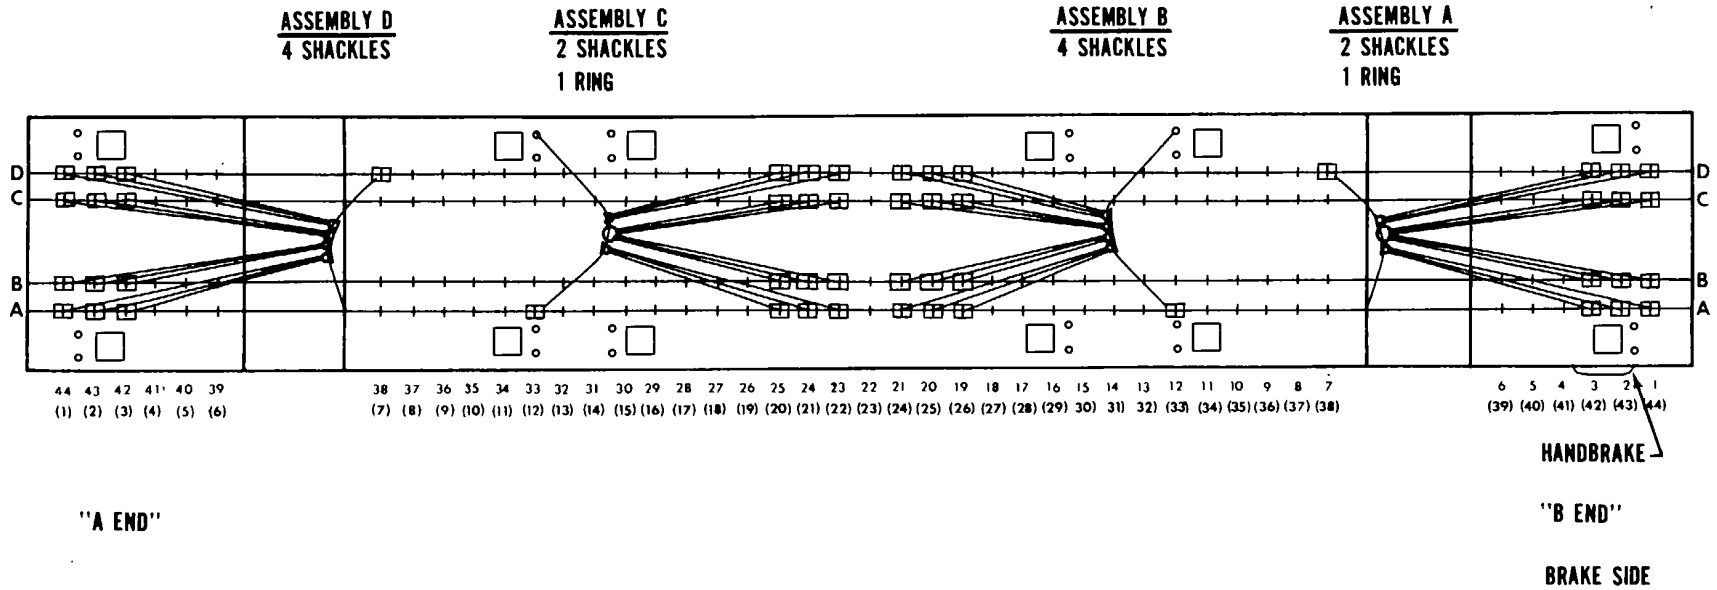

Figure 2-2. Diagram for securing tiedown devices to empty car.
b. The chain securement system is arranged in four assemblies: A, B, C, and D. These assemblies are illustrated in figures 2-2 through 2-5, respectively.
c. If one vehicle is moved on a flatcar, the chains in the middle of the car will be used to tie down the vehicle and those on the ends of the car must remain secured in a necklace arrangement. On cars with at least two spare chains, the spares will be used as crossover chains and placed in channel D positions 7 and 38 as described in assemblies A and D for an empty car at figure 2-2.
d. If a car has only 48 chains, all 24 chains in the center of the car must be used to tie down the vehicle (except the M109 self-propelled howitzers, which use only 12 chains). Since this leaves no chains available to cross over the deck to secure chains, shackles, and rings at the end of the car, the chain assemblies, with anchors, near positions D3 and D42 must be removed and placed at positions D7 and D38. These will become the crossover chains. At this point, follow the crossover procedures identified in assemblies A and D of figure 2-2.